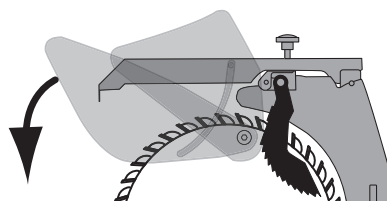

Figure 74. Typical ripping operation.
10. Use a push stick to feed the workpiece through the saw blade, as shown in **Figure 74**, until the workpiece is completely beyond the saw blade.